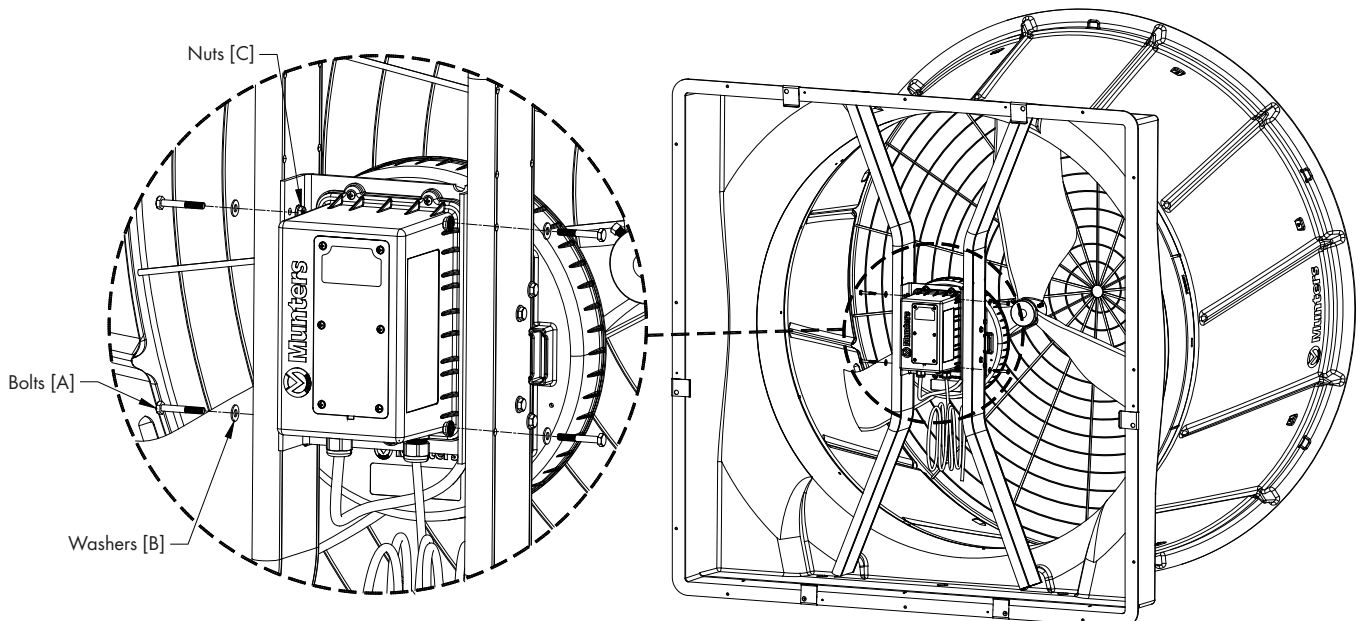

Figure 5B
Slide the controller between the struts so that the 2 holes in each strut line up with the holes in each side of the controller bracket and fasten with (4) Bolts [A], Washers [B] and Nuts [C]. See Figure 5B.